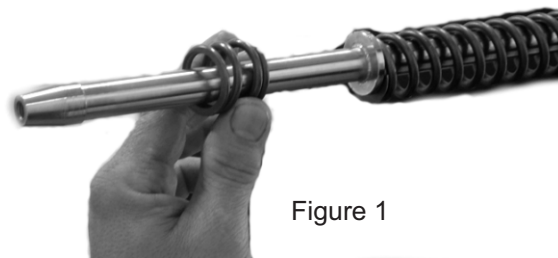
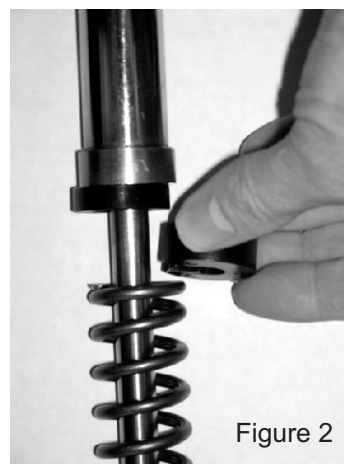

Figure 1
Figure 2
- Put the stock top out spring onto the Progressive Suspension Monotube cartridge assembly as shown (see figure 1) AND one (1) of the supplied "C" shaped preload spacers between the top of the fork spring and the upper spring seat (see figure 2). Then insert it into the fork assembly as shown (see figure 3).